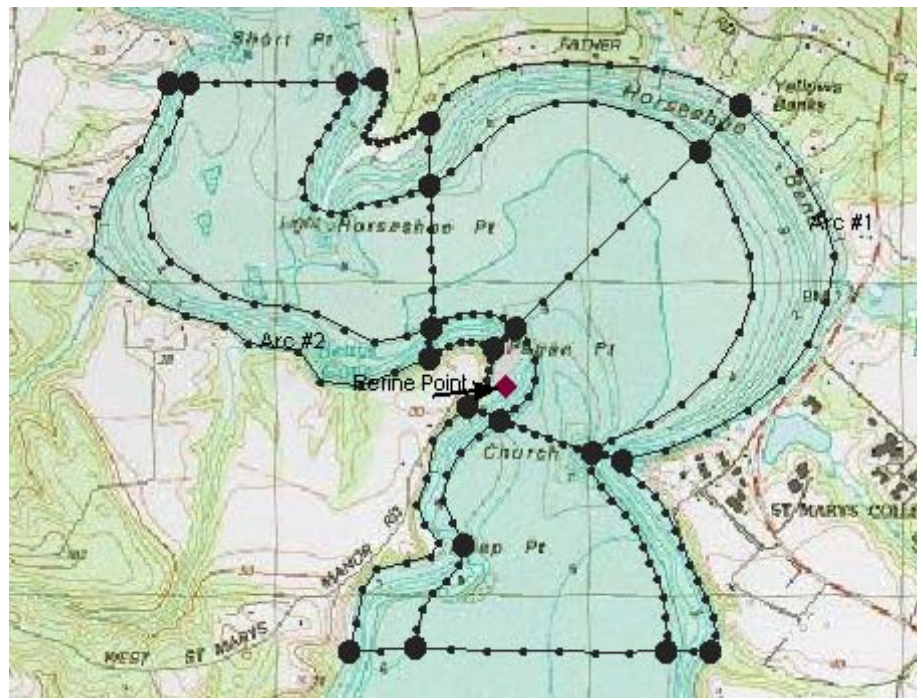

Figure 2-7 The location of the refine point.
2. Double-click on the point inside the left polygon, labeled in Figure 2-7.